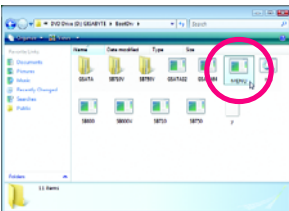
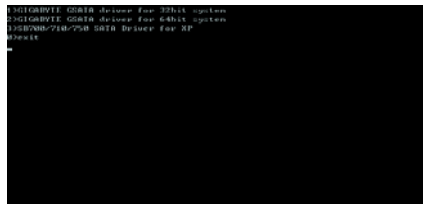

Figure 3
Figure 4
- 2: From your optical drive folder, double click the **Menu.exe** file in the **BootDrv** folder (Figure 3). A Command Prompt window will open similar to that in Figure 4.
- 3: Insert the blank formatted disk. Select the controller driver by pressing the corresponding letter from the menu. For example, from the menu in Figure 4,